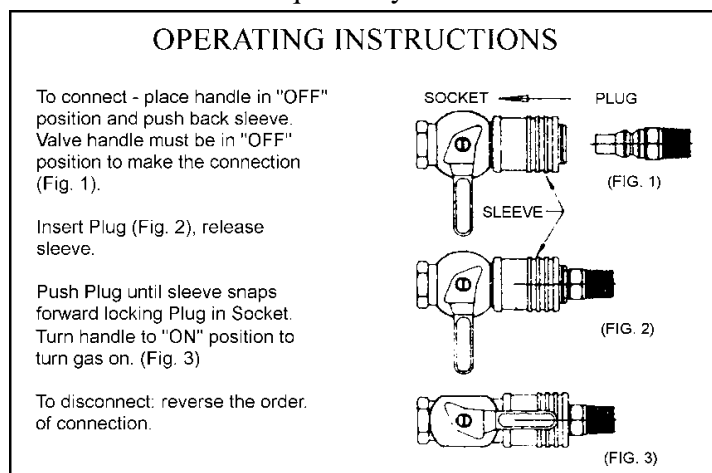

Fig. 5-1
4. LP gas connections are made with a "Quick-Coupler" (Fig. 5-1) system with positive shut-off valve as required by code and standards.